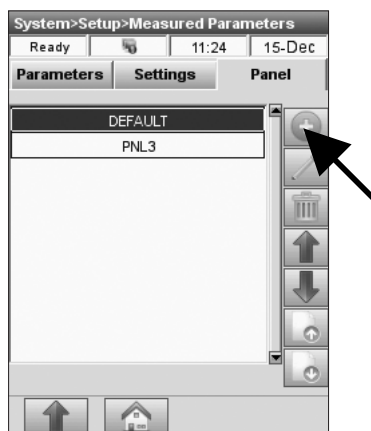

Fig. 3-25 Add Panel
4. In the **<Measured Parameters>** menu (Fig. 3-25), select the **<Panel>** tab.